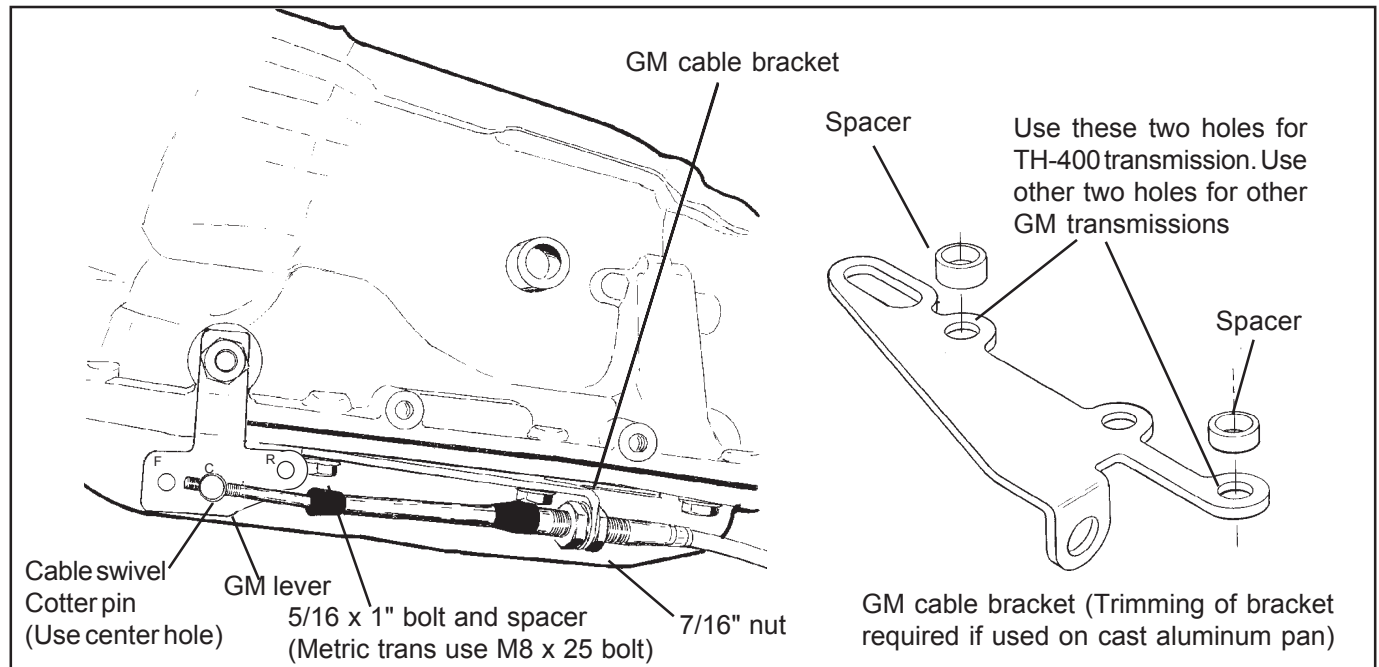

Figure 3
remove the stock selector lever nut and the selector lever. Discard the stock lever and the stock shifter linkage. Install the **B&M** selector lever in position using the stock selector lever nut (**See Figure 3**). Torque the nut to 23 lb.ft. The lever should move smoothly from front to rear with a positive click in each gear position.
STEP 9. Remove the two transmission oil pan bolts from the middle of the left side of the oil pan. Install the cable bracket in position (**See Figure 3**). The bracket must be installed with two spacers between the pan and the bracket. (If your transmission is equipped with a cast aluminum oil pan, these spacers should be omitted however the cable bracket will have to be modified). Install the two 5/16-18 x 1.00" bolts supplied and tighten to 12-13 lb.ft. Do not overtighten as this can damage the pan gasket.